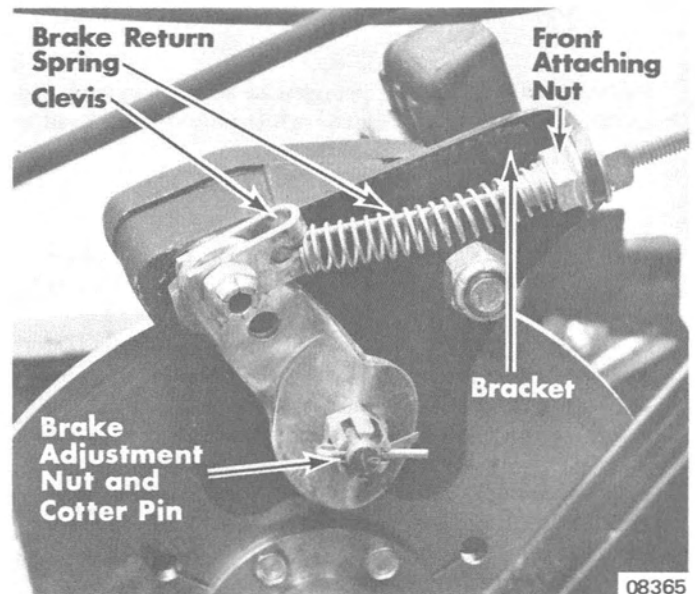

Figure 2. Brake Assembly
1. Remove cotter pin from brake adjustment nut and loosen nut several turns. (Figure 2)
2. Remove brake cable core wire from clevis. (Figure 2)
10. Place brake return spring around brake cable core wire and install brake cable core wire into clevis. (Figure 2)
2. Remove cotter pin and turn brake adjustment nut (Figure 2) clockwise until brake discs make contact with, and cause drag on, brake disc.